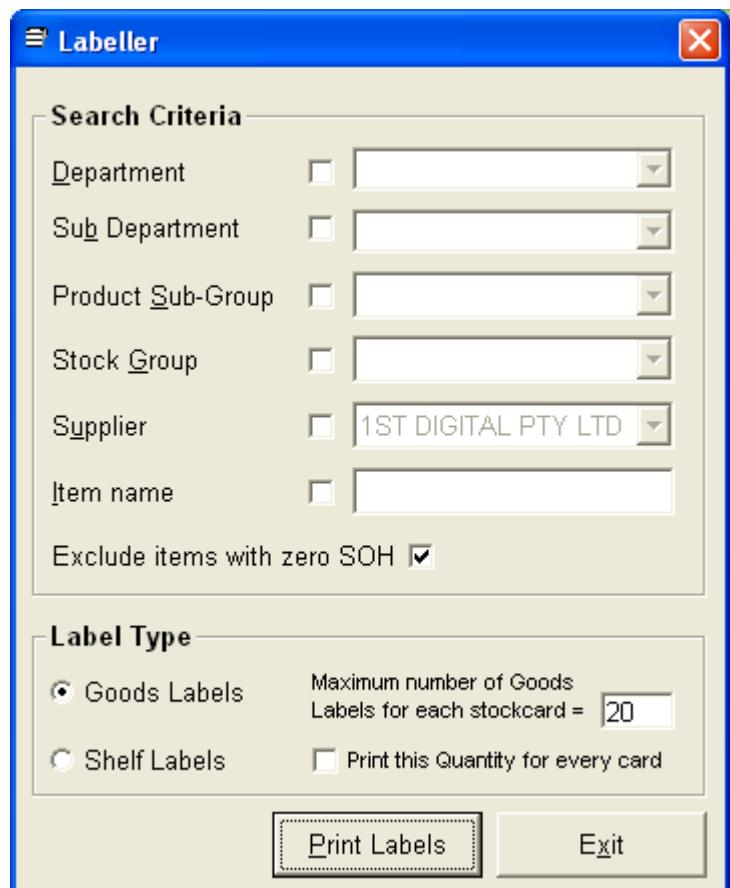

Figure 199
2. This will display the 'Labeller' window (see Figure 199).